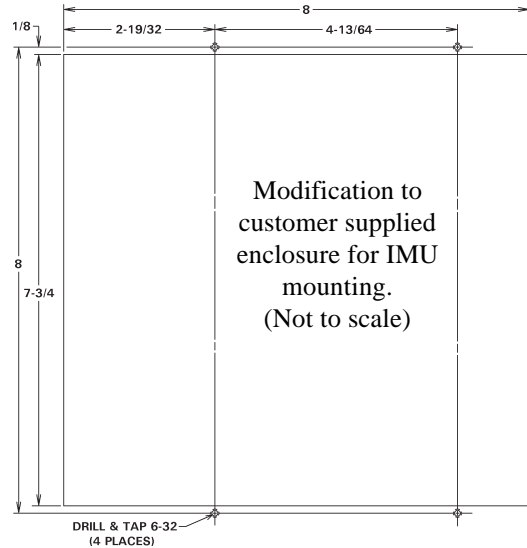

Figure 2.
1. Modify enclosure to accept the IMU per Figure 2.
2. Mount the IMU Assembly to the enclosure using the four (4) black 6-32 x 1/4 screws supplied in the poly bag which has been taped to the bottom of the IMU.